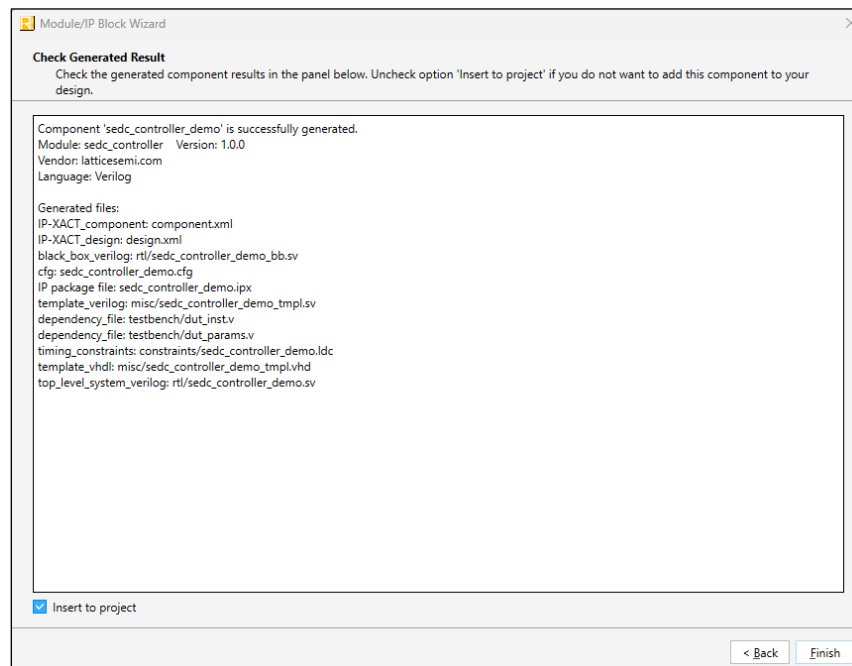

Figure 5.3. Check Generated Result
- Click **Generate**. The **Check Generated Result** dialog box opens, showing design block messages and results as shown in Figure 5.3.